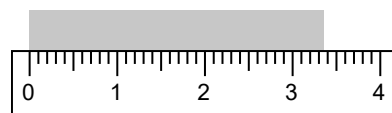

Figure 2: Measurements with a ruler.
- Rulers. We determine the length of something by comparing it to the markings on the ruler (see Figure 2).
The best estimate of the length of the box in Figure 2 is familiar: just read the scale to find $L_{\text{best}} = 3.35$ cm. But what is the uncertainty? Normally, we use the following rule.
The length of the object in Figure 2 is then $L = L_{\text{best}} \pm \delta L = (3.35 \pm 0.05)$ cm.
Returning to Figure 2, the relative uncertainty in the length of the object from before is then